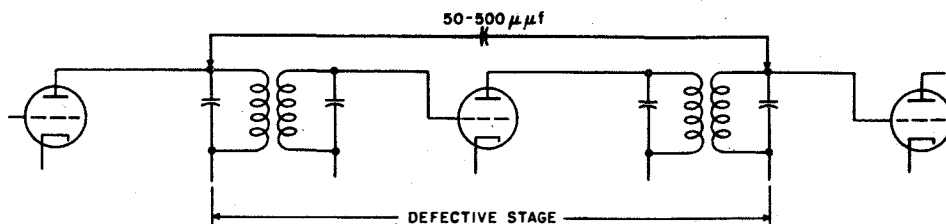

Figure 7-113. Bypassing a Defective Stage
(3) BRIDGING DEFECTIVE STAGE. (See figure 7-113.)—When the procedures described in the two preceding paragraphs do not produce satisfactory results, it is possible to bridge an entire stage. This method is shown in figure 7-113.
(4) FIXED RESISTORS.—The value of a carbon resistor will decrease when overheated. Should this condition become permanent, the resistor value may be increased by scraping or filing the resistor until the approximate value is obtained. Use care in filing and scraping, and keep a constant check on the changing value. Be sure the removal of insulation does not cause a short.